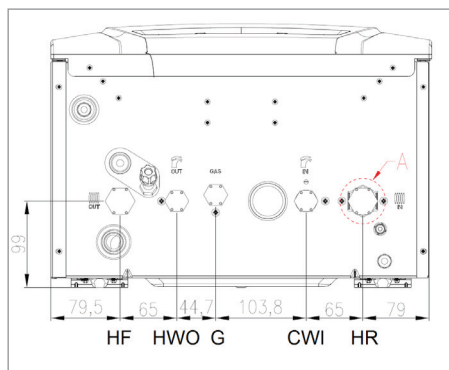
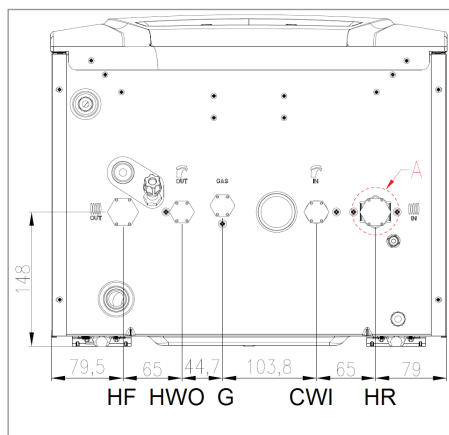

Figure 27a. Water connections
Figure 27b. Water connections
- ⚠ The fitting placed under pump (Figure 27a and Figure 27b – see Detail A) must be tightened with torque of maximum 18 Nm in case of rubber gasket use. This value is 30 Nm in case of cylinder head gasket use.